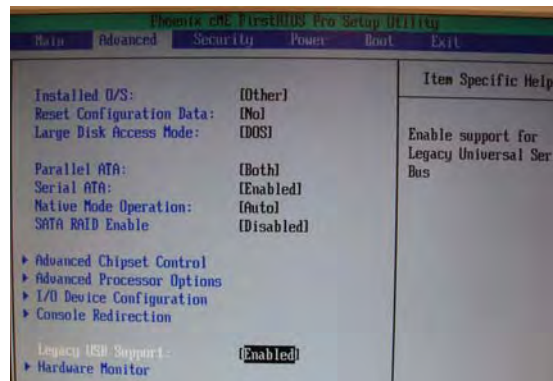

Figure 1-16. Verify Legacy USB
- Verify in the same menu that Legacy USB Support is **Enabled**. If not, select **Legacy USB Support** and press **+** to change (Figure 1-16).